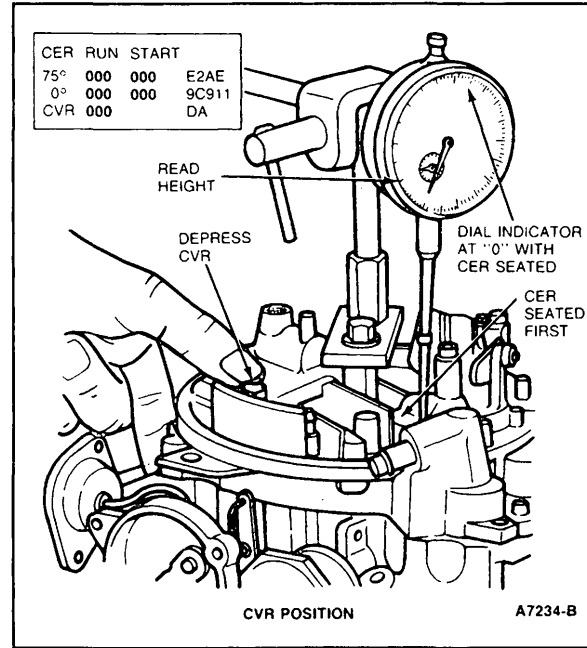

Figure 8 Control Vacuum Rod (CVR) Position — Check
Refer to Figures 8 and 9.
1. Seat CER again using stator cap weight and check for zero dial indicator reading. Reset zero position of indicator if required. Remove stator cap weight (Figure 8).